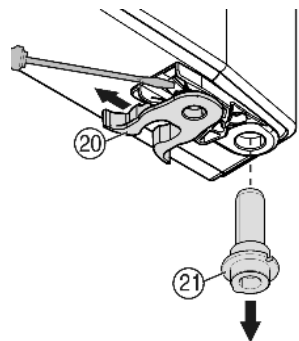

Fig. 10
- ▶ Transfer the spring clamp Fig. 10 (20): Depress the latch nose and pull the spring clamp off over it.
- ▶ Pull the bearing pin Fig. 10 (21) out of the door bush and transfer it to the opposite side together with the washer. The latch nose must point to the inner side of the door, the notch to the outer side.
- ▶ Swing the door in at the bottom and insert the bearing pin Fig. 10 (21) into the turn hinge. If necessary, turn the bearing pin until it snaps into place.